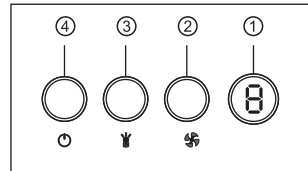

Fig.21
1. Refer to Fig. 21
- ① Slide the baffle filter into the hood.
- ② Push the baffle filter up ward.
- ③ Slide forward.
- ④ Pull downward.
- ⑤ Fit into place.
Note: Operate switches (Fig.21)